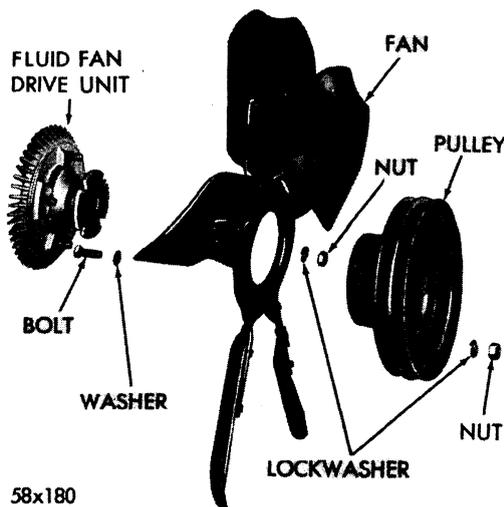

Fig. 1—Silent Flite Fluid 5 Blade Fan Drive (Used On Air Conditioning Only) Exploded View
1. SILENT FLITE FLUID FAN DRIVE (FIGS. 1 AND 2) (All Models with Air Conditioning)
Drain cooling system and remove upper half of fan shroud (Air Conditioning Models only). Loosen the power steering pump or idler pulley, generator, and remove all belts. Remove fan, spacer and pulley. On Air Conditioning Models, remove the pulley from water pump fan hub, loosen all nuts from fan to remove the fluid fan drive, as shown in Figure 1. Remove bolts holding water pump body to housing and remove water pump.
c. Assembly (Fig. 1)